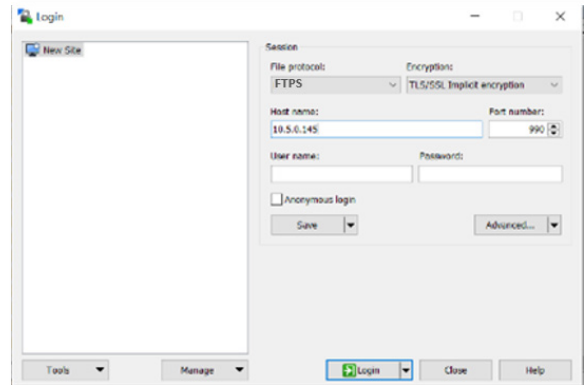

Figure 66: Enter the Digital Analyzer's IP address in the FTPS client connection.
- On a Windows computer, launch the FTPS-supported client and start a new connection with the Digital Analyzer IP address or serial number as shown in **Figure 66**. Ensure the following settings are equivalent in the FTP client being used: Protocol = FTPS, Encryption = TLS/SSL implicit, Port = 990